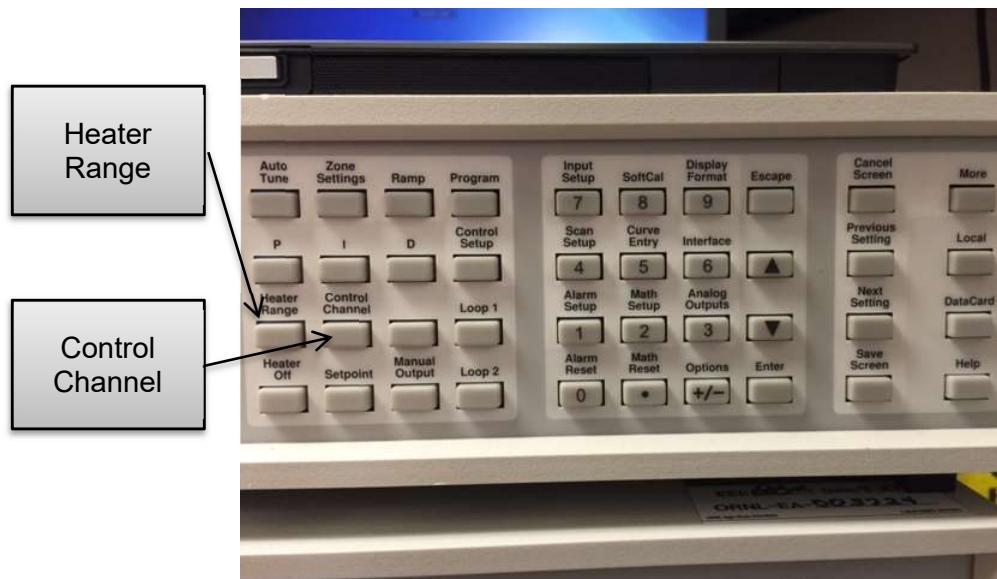

Figure 11
- 2.14 Press heater range key (Figure 11).
- 2.17 Ensure control channel is set to appropriate input (Figure 13). If control channel needs to be changed, press control channel (Figure 11).